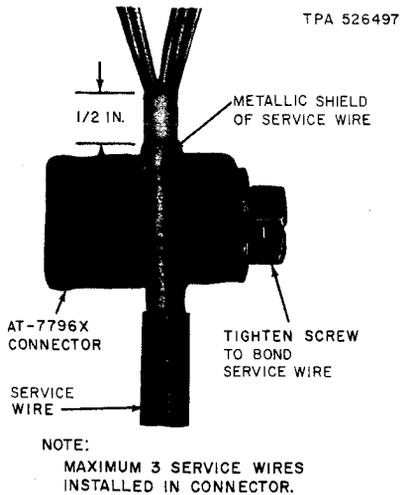

Fig. 27—Installing Service Wire in AT-7796X Connector
9.04 To bond the shield of the service wire to the closure it is not necessary to remove the screw from the AT-7796X Connector. Place the metallic shield of the service wire in the connector as illustrated in Fig. 27.